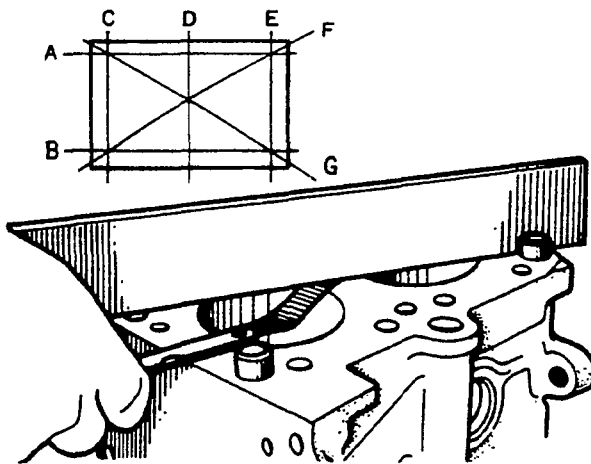

FIGURE 9-64. MEASURING FLATNESS OF BLOCK
2. Using a straight edge and thickness gauge, measure flatness on the top surface of cylinder block (Figure 9-64). If the top surface is distorted beyond limit, correct by grinding. When flatness is measured, check to ensure that there are no gasket pieces and other deposits on the top surface of the cylinder block.